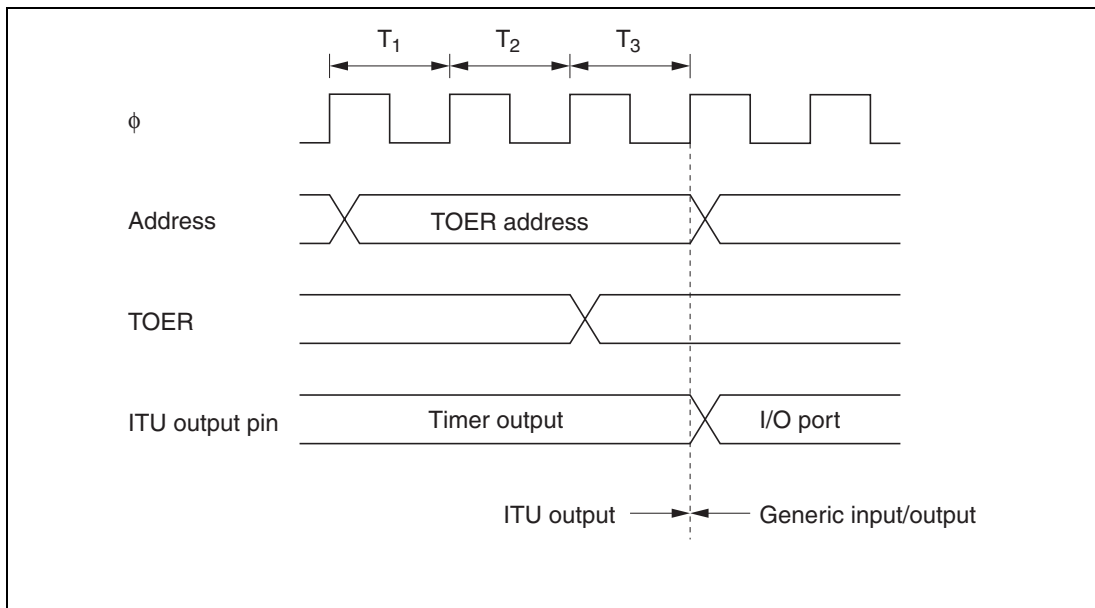

Figure 8.54 Timing of Disabling of ITU Output by Writing to TOER (Example)
Timing of Enabling and Disabling of ITU Output by TOER: In this example an ITU output is disabled by clearing a master enable bit to 0 in TOER. An arbitrary value can be output by appropriate settings of the data register (DR) and data direction register (DDR) of the corresponding input/output port. Figure 8.54 illustrates the timing of the enabling and disabling of ITU output by TOER.